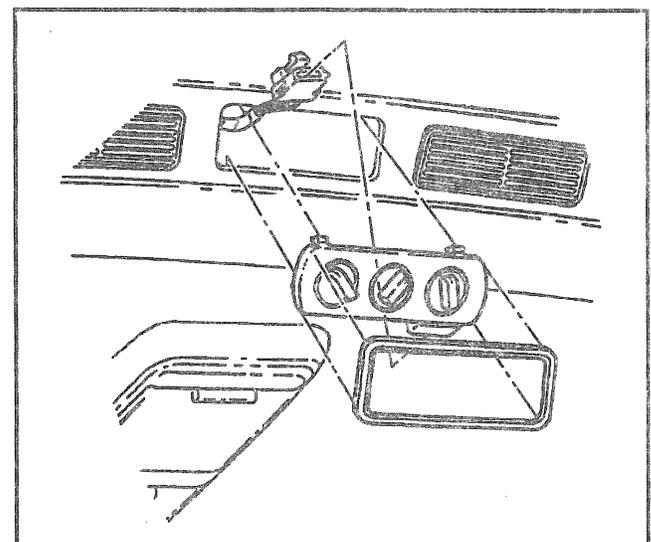

Figure 20—Center Overhead Auxiliary Control Switch
**↔** Remove or Disconnect (Figure 20)
**→←** Install or Connect (Figure 20)